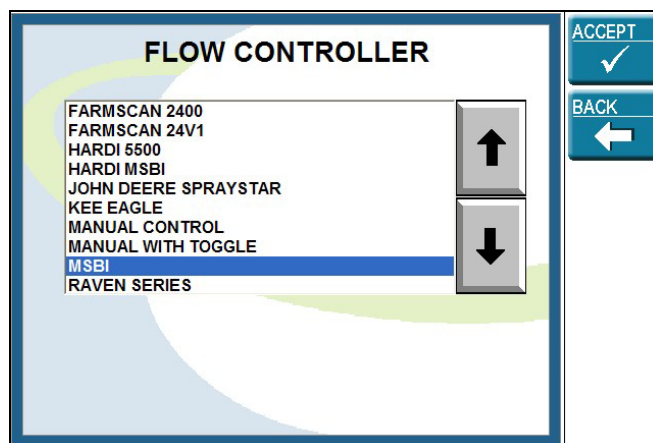

Figure 6-10 Flow Controller List Window
- 5) Select MSBI from the Flow Controller list as shown in Figure 6-10